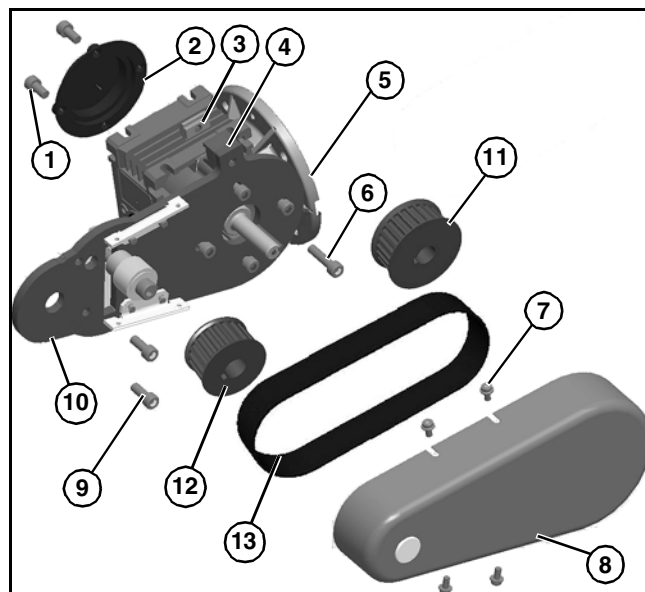

Figure 1
Type 1 mounting package shown below left (Figure 1). Type 2 mounting package shown below right (Figure 1).
1. Gather installation components (Figure 1)